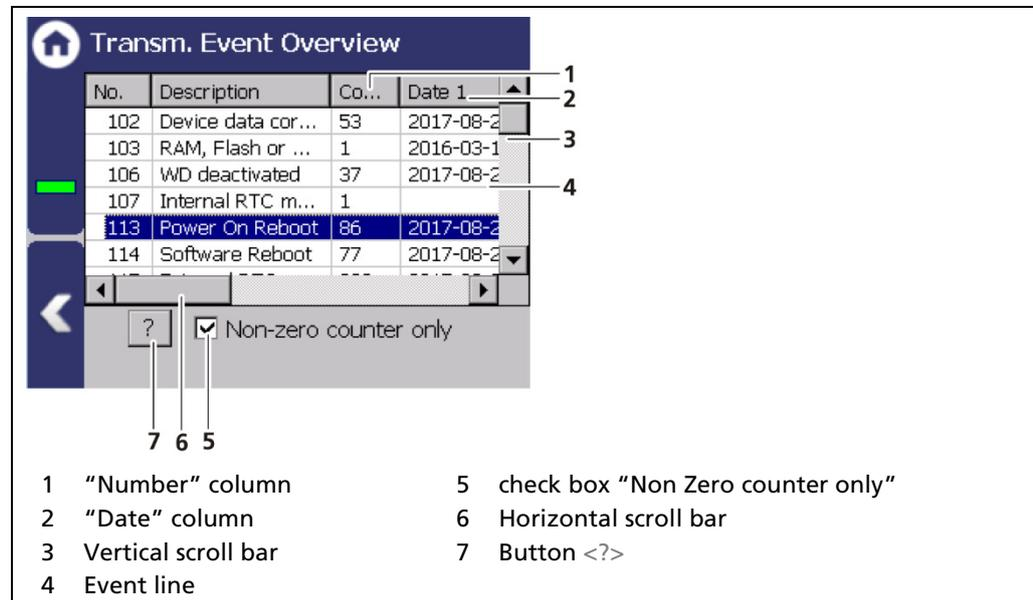

Fig. 139 Transmitter Event Overview
All events that can be logged are chronologically presented in tabular form in the window "Event overview". Activate the check box "Non-zero Counter only 0" (Fig. 139, item 5) in order to display events that have occurred.
1. Click on a line in the list (Fig. 139, item 4).
2. Click on <? > (Fig. 139, item 7).
4. Slide the bar of the horizontal scroll bar (Fig. 139, item 6) to the right to see at what times (date, time) the event occurred.